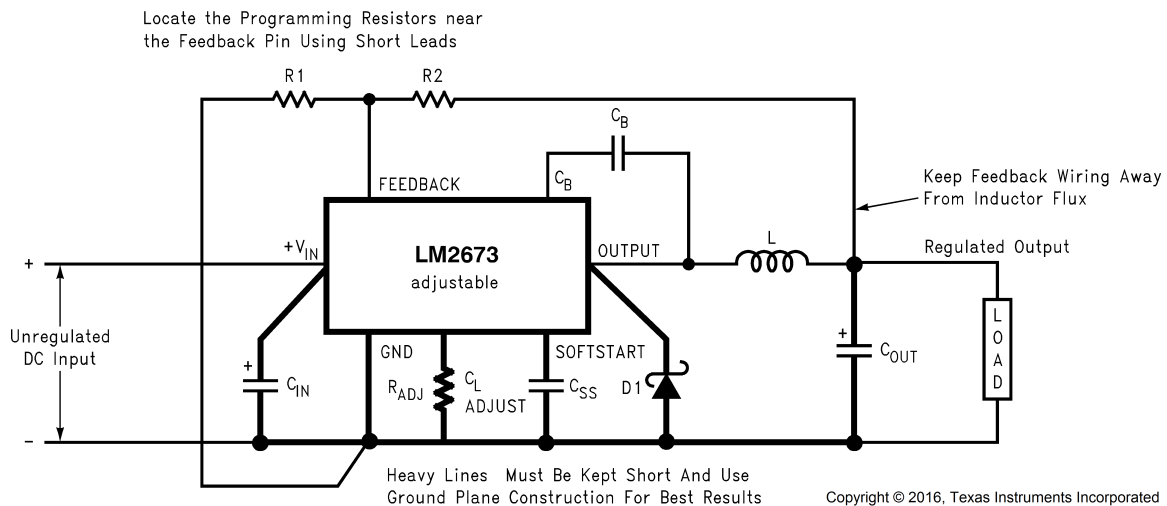

Figure 19. Basic Circuit for Adjustable Output Voltage Applications
Step 2: Select an LM2673S-ADJ. To set the output voltage to 14.9 V, two resistors need to be chosen (R_1 and R_2 in Figure 19). For the adjustable device the output voltage is set by the following relationship: